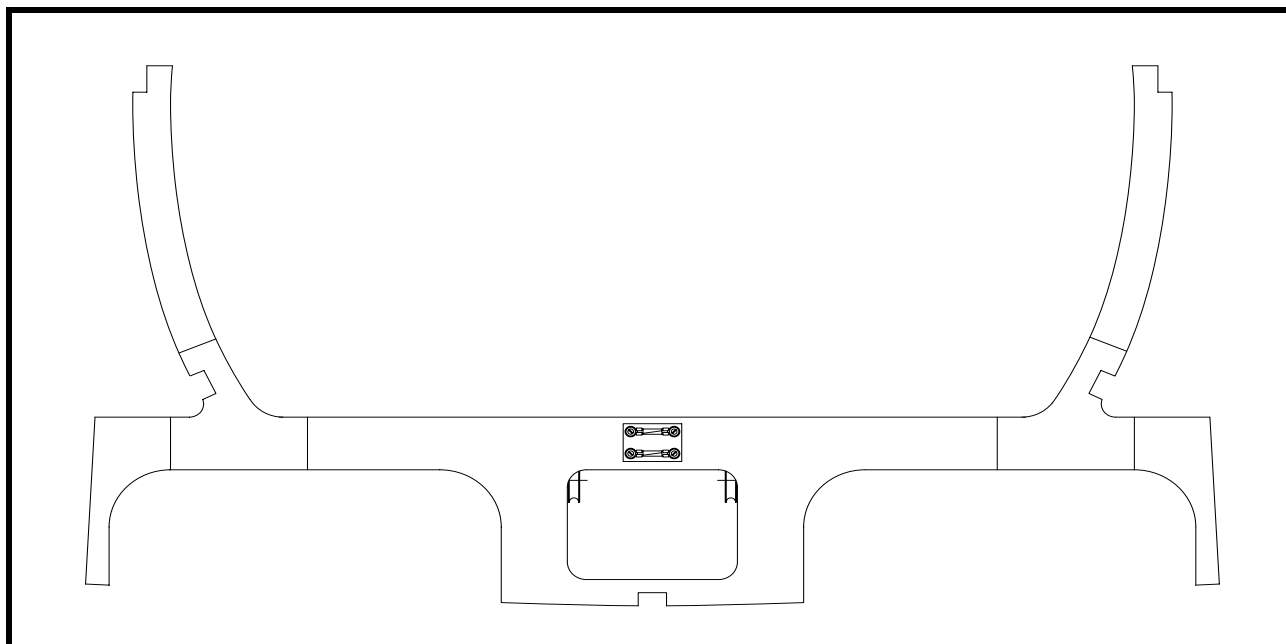

Figure 23
- ❑ Install the fuse holder for F5 and F6 fuses on the aft face of fuselage frame No. 5 as shown in Figure 23.